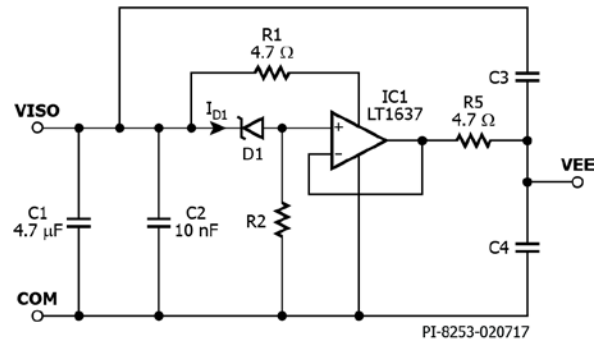
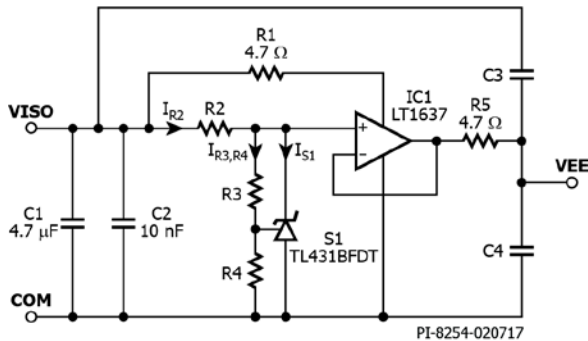

Figure 4. VEE-Regulator for SiC MOSFET Switches with Regulated Positive Rail.
Figure 5. VEE-Regulator for SiC MOSFET Switches with Regulated Negative Rail.
- An impedance transformer (IC1 in Figure 4 and Figure 5) is placed between the midpoint of the voltage divider and the new emitter (or source) reference VEE* to provide sufficient current sink and sourcing to regulate the voltage rails.
Figure 4 shows an example of a regulated positive voltage rail using a combination of a Zener diode D1 and series resistor R2. Figure 5 shows an
Referring to Figure 4, the positive rail voltage V_{VISO} is calculated using the following formula:
Referring to Figure 5, the negative rail voltage V_{COM} is calculated using the following formula and based on the data sheet and application notes of the shunt regulator TL431BFDT (S1):